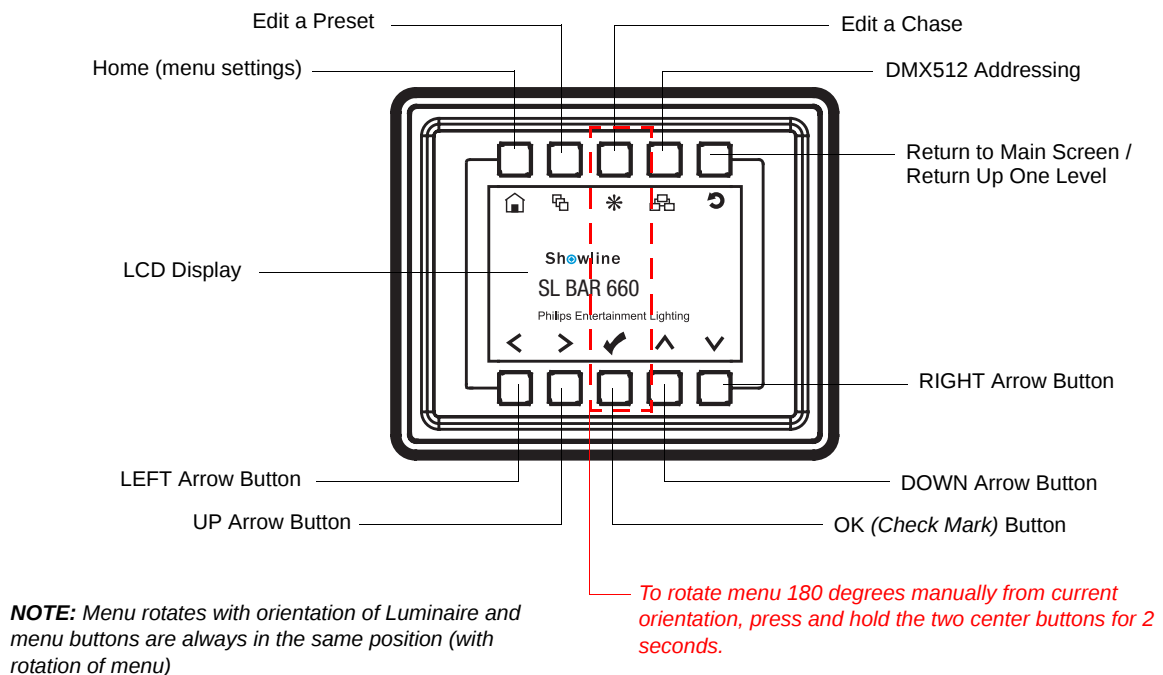

Figure 8: LCD Display and Menu System
- Step 2. Press the desired button (as shown in **Figure 8 on page 12**) to access menu categories.
- Step 5. Press CHECK MARK (OK) button to accept changes.